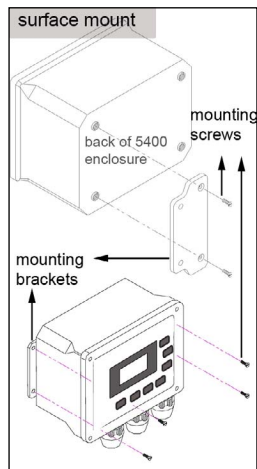

Figure 3.2
1. Fasten the mounting brackets to the back of the 5X00 with the mounting screws - figure 3.2.
3. Fasten the 5X00 mounting brackets to the mounting surface with the mounting screws provided - figure 3.2. Make sure screws adequately secure 5X00 to surface.
2. Fasten the mounting brackets to the back of the 5X00 with the mounting screws as shown in figure 3.2.
5. Fasten the mounting brackets to the back of the 5X00 enclosure with the mounting screws - figure 3.2 - page 28.